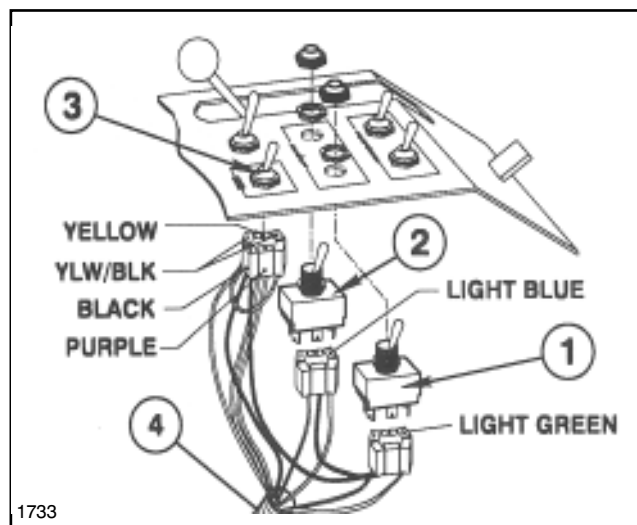

FIG. 4
8. Install two (2) Boom Switches (included in Boom Lift Kit) and Sonic Boom™ Mode Switch (1/2" DIA. hole required). Install Decals, and connect Wiring Harness. See FIG. 4.